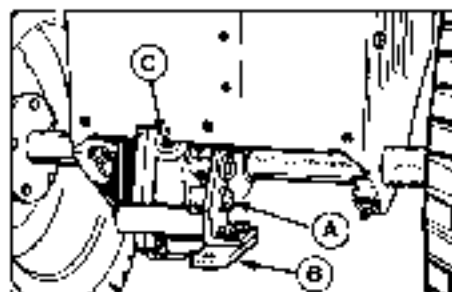

Figure 14. Transmission Oil Level Check (Drawbar Removed)
- Remove the transmission oil level check capscrew (A, Figure 14).
- Oil should be level with bottom of hole. If not, remove the fill plug (C) and add Allis-Chalmers Power Fluid 821. When level with check hole, replace and retighten capscrew and fill plug. (Apply sealant to capscrew thread before reinstalling).